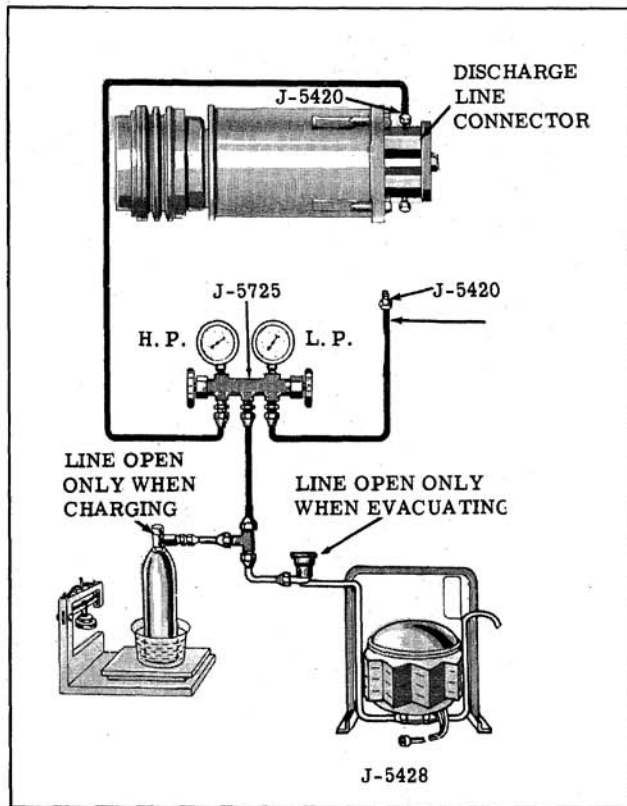

Fig. 14-92 Evacuating The System
1. Connect the Gauge Set J-5725, vacuum pump and refrigerant charging drum as shown in Fig. 14-92. Use J-5420 Schrader Valve adapters to connect gauge lines to the Schrader valve fittings at the compressor and suction throttling valve.